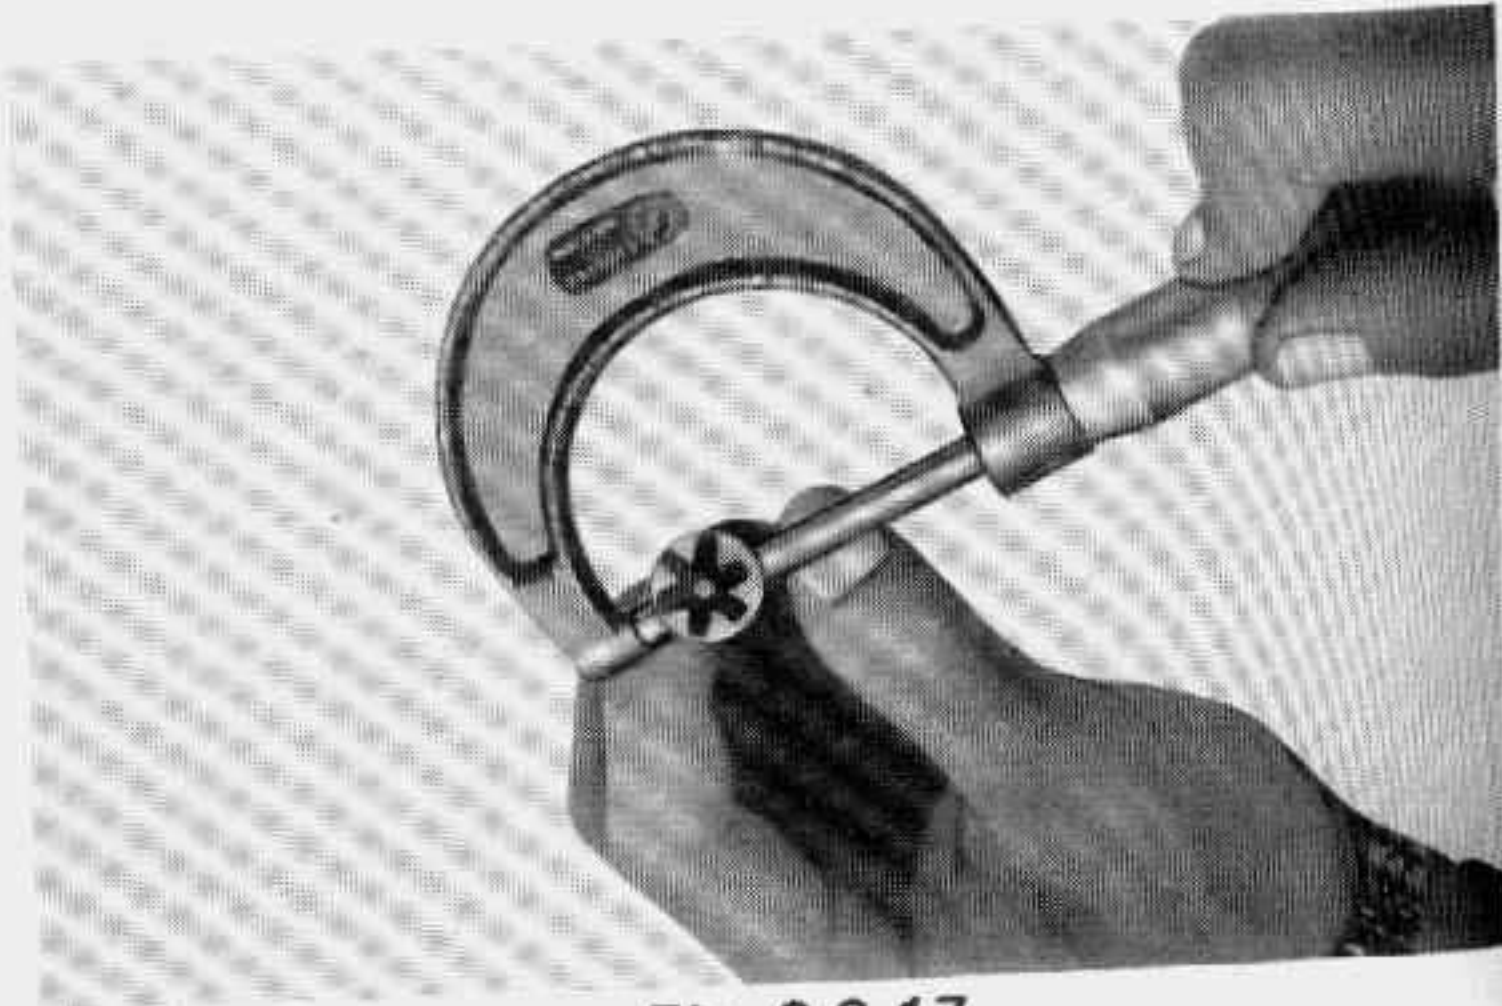

Fig. 8-2-17.
b) Piston: Measure outer diameter of the piston as shown in Fig. 8-2-17.